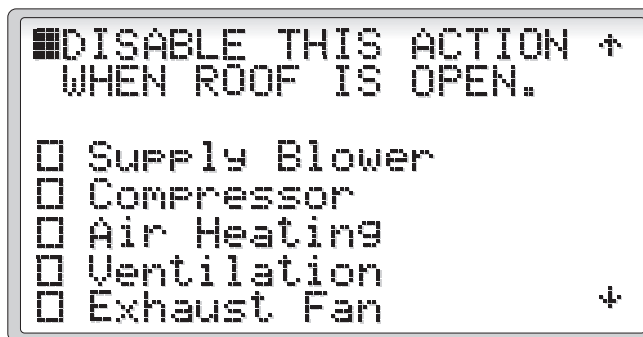

Figure 22
2.3.3.1.6 Configuration – Roof Open Action (Figure 22)